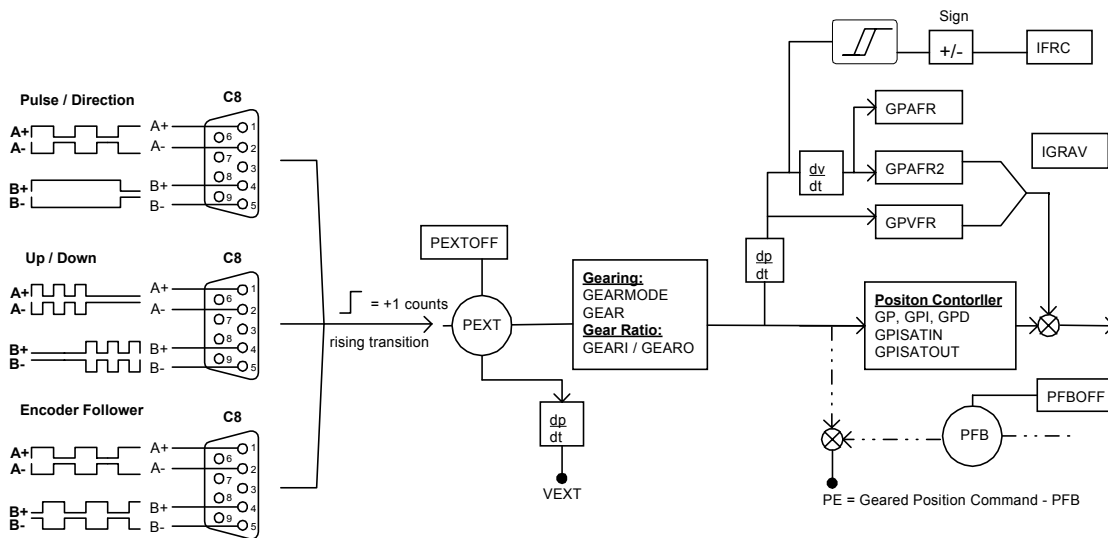

Figure 1: Pulse Control Operation
The drive accepts an input pulse train where the rising edge of each pulse increments (or decrements depending on the direction) the external position counter (PEXT) of the drive one position count (*See Figure 1*). This counter value is passed through a gearing block (Electronic Gearing feature) and becomes the position command for the motor. This position command is compared against the actual motor position (PFB) to create a position error (PE). The drive corrects the position error by incrementing the motor to the commanded position.
Referring to Figure 1, the pulse signal applied to the A channel increments (or decrements depending on the direction) the external position counter (PEXT). The line frequency and the gearing relationship determine the speed and amount of the shaft movement.